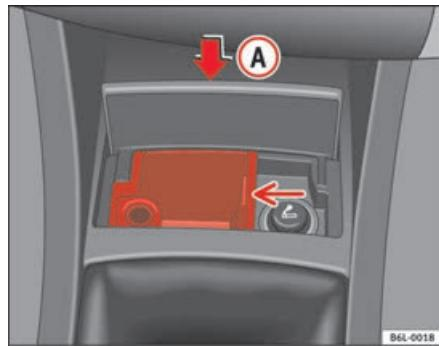

Fig. 85 Front ashtray
- Press the lower part of the ashtray cover A ⇒ fig. 85 and it will open automatically with a spring action.